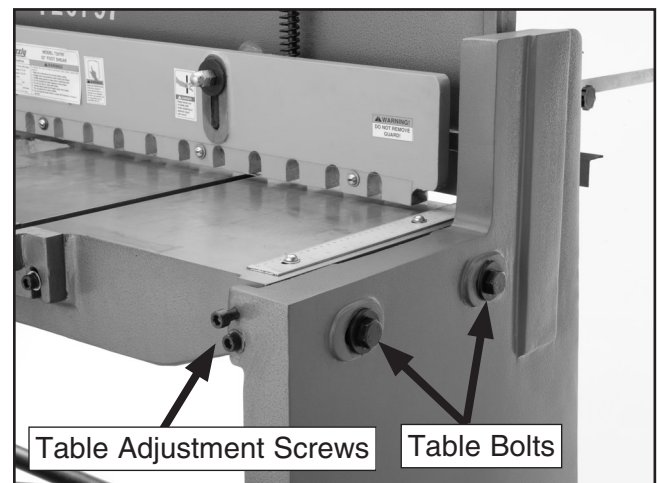

Figure 17. Adjustment screws.
1. Loosen, but do not remove the two table bolts and table adjustment screws on both sides of the foot shear (see **Figure 17**).